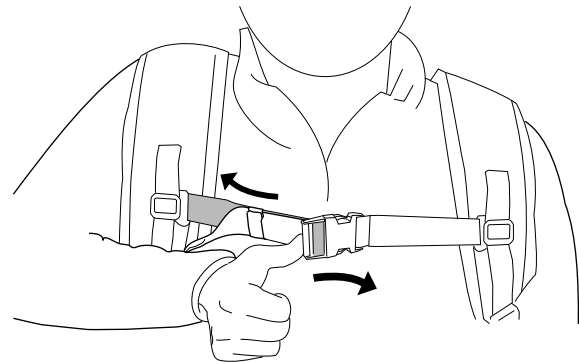

Figure 10
7. If the sternum strap is too tight, push sideways on the adjuster to lengthen the straps (Figure 10).